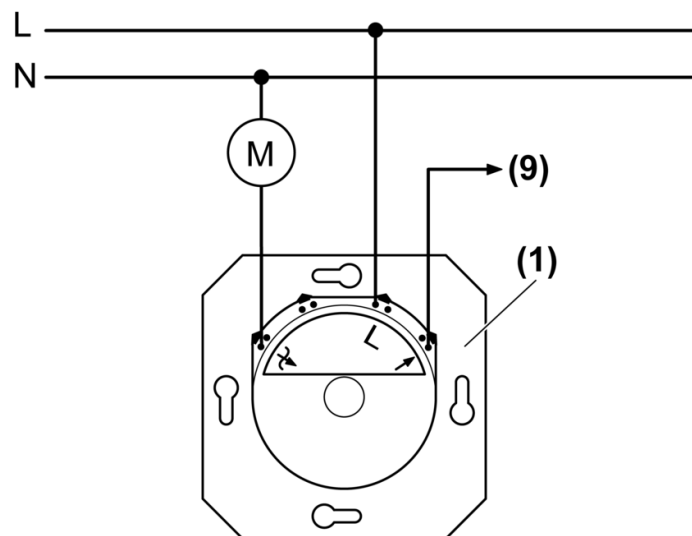

Figure 3: Connection diagram
(1) Speed controller
(9) Switching output
- Connect speed controller according to the connection diagram (Figure 3).